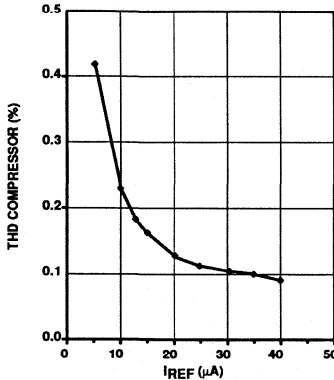

Figure 5. IREF vs THD, Compressor Side
Step 1: According to Figure 5, an I_{REF} of 30 μA is required for approximately 0.1% distortion.